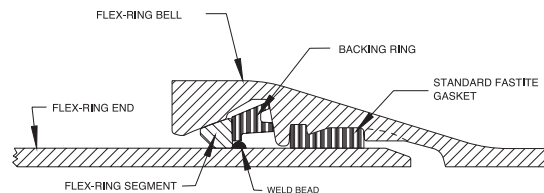

Figure 3
**1. First straighten the joint as much as possible and push or pull the spigot back into the bell until it "bottoms out" in the rear of the socket. (Fig. 3)**